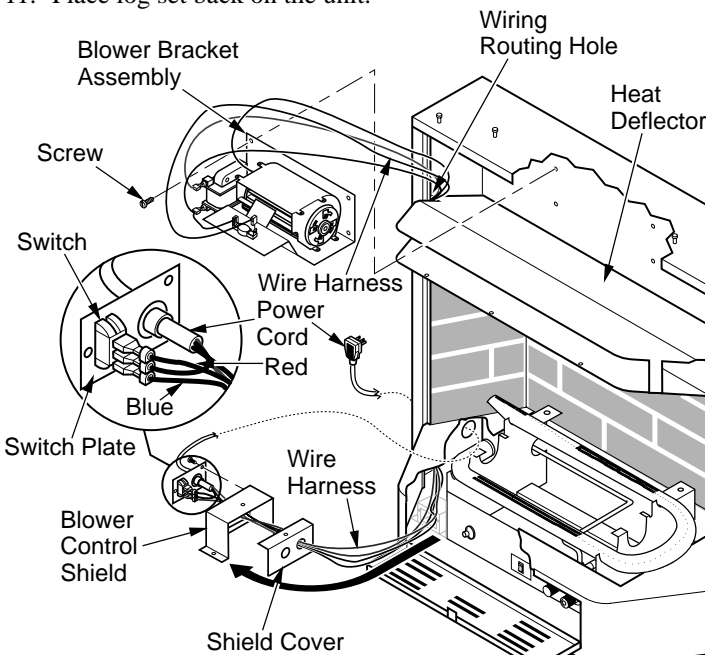
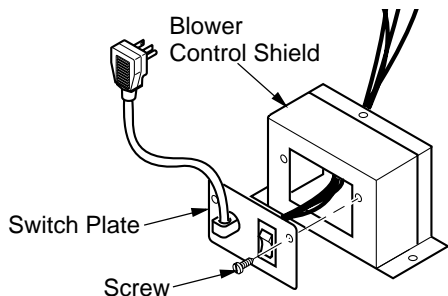

Figure 15 - Installing Blower Bracket Assembly
Figure 16 - Installing Switch Plate to Blower Control Shield
4. Note the wire locations on back of AUTO/OFF/ON switch. Carefully remove red wire from the AUTO terminal and blue wire from the ON terminal. Black wire can remain on the middle or OFF terminal (see Figure 15, page 11).
6. In top of the heater cabinet, locate the four mounting holes on the outer casing. Align these four holes with those on the blower bracket assembly. Attach blower bracket assembly to the outer casing with 4 - #10 screws provided (see Figure 15, page 11).
7. Route the wire harness through the hole to the left side of heat deflector. Pull wire harness through lower opening to the left of the blower control shield. (see Figure 15, page 11).
8. Insert the 4 wire harness into one of the round holes in the rear of the blower control shield and through the rectangular hole in the front of shield (see Figure 15, page 11).
10. Install the switch plate on the blower control shield with 2 - #10 screws provided (see Figure 16). Route power cord out of the cabinet by inserting it through the bushing on the outer casing (see Figure 15). Plug fan kit into 120-Volt grounded power supply and test operation. **Note:** When switch is in the AUTO position, the fan will start after the heater has run for a few moments. The fan will continue to run for several moments after the heater has been turned off. When switch is in the ON position, the fan will run until turned to OFF. Reinstall hood assembly and close lower louver door.